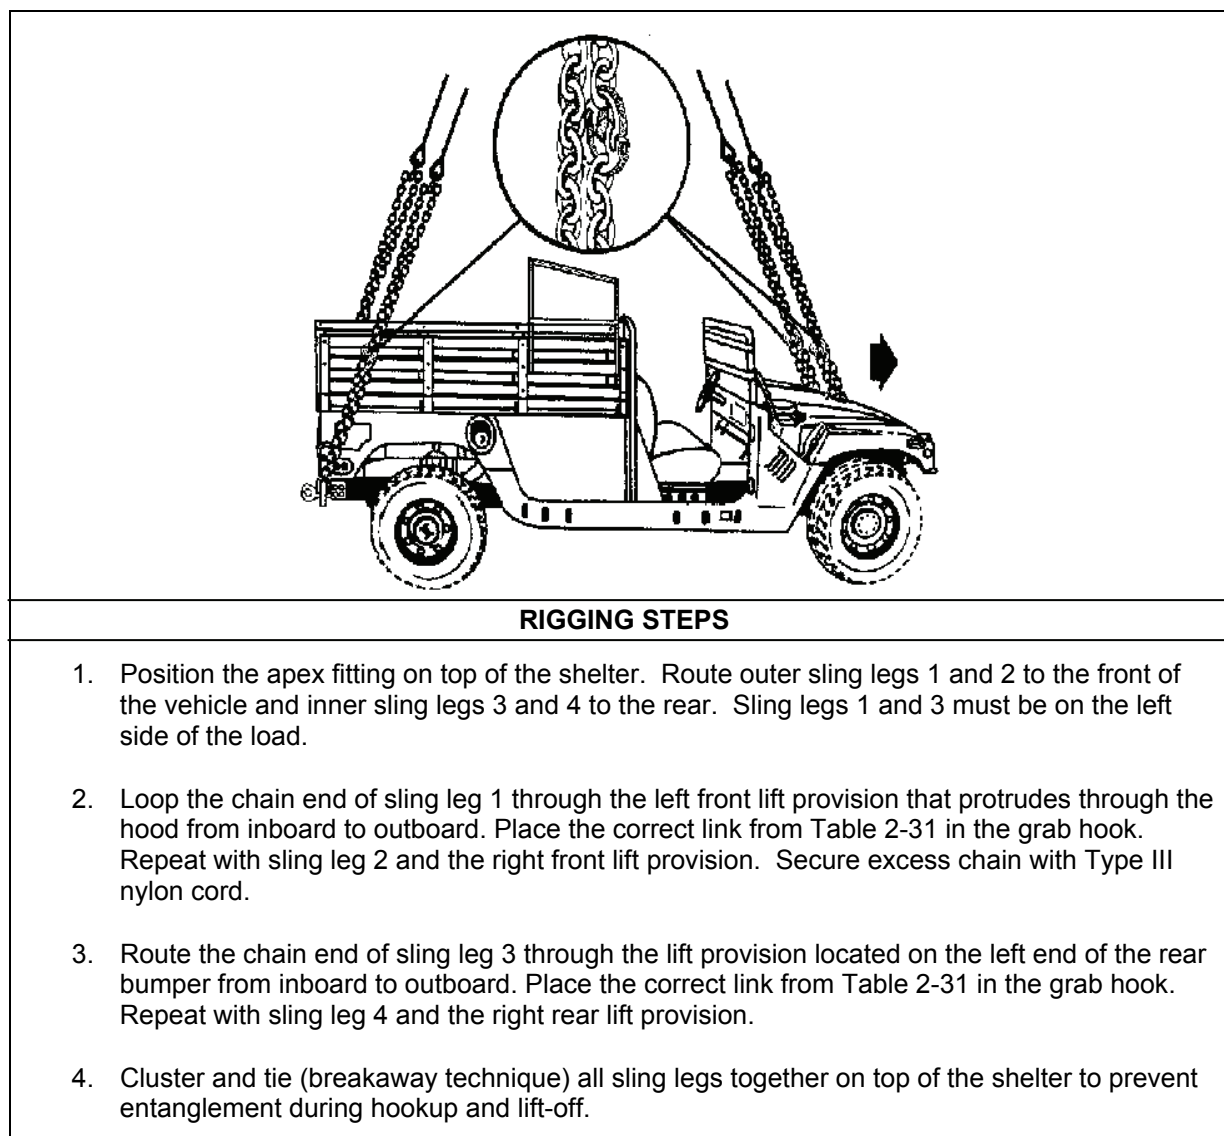

Figure 2-30. M998/M1038 with LTACFIRE or TTCS
- **Rigging.** Rig the load according to the steps in Figure 2-30.